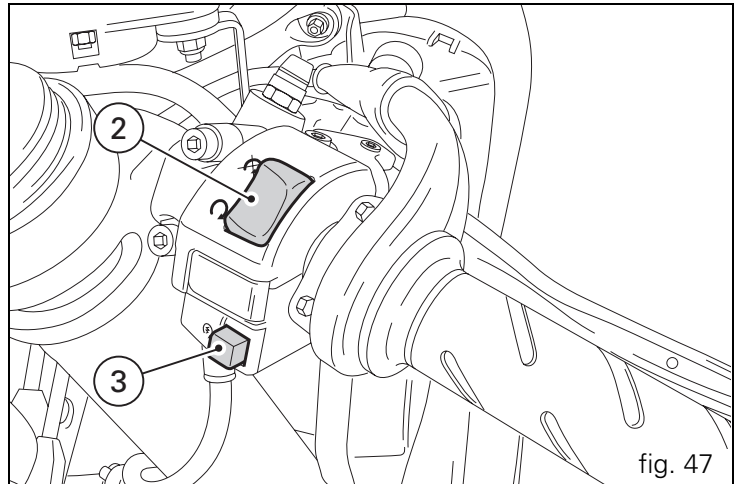

fig. 47
2) Check that the stop switch (2, fig. 47) is positioned to  (RUN), then press the starter button (3, fig. 47).